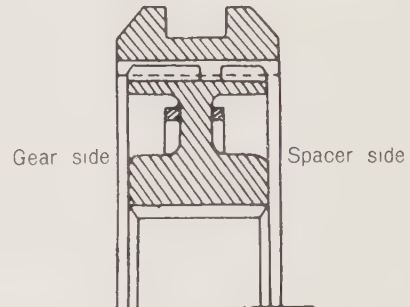

Fig. 6.40. Assembling the synchronizer hub
- 8 Assemble the three synchronizer inserts, synchronizer sleeve and two synchronizer springs on the synchronizer hub, so that the smallest spline is on the rear drive spacer side, see Fig. 6.40.